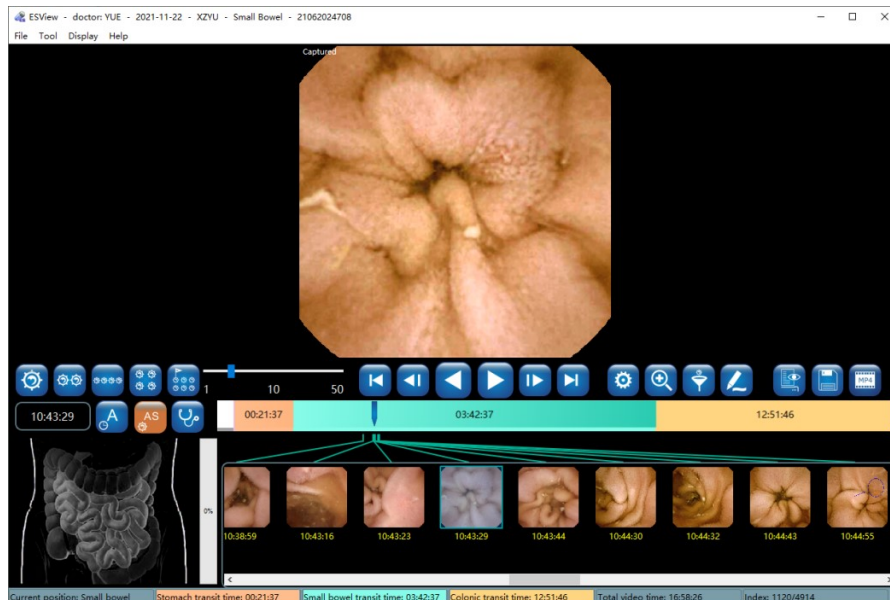

Figure 4-38: Similarity Browsing Mode
1. Click , when the button icon changes to , the similarity browsing mode will be activated (Figure 4-38). In this mode, the software displays only one image for all the adjacent similar images, reducing number of images to be browsed. Experiments show that the number of images is reduced by approximately 50%.